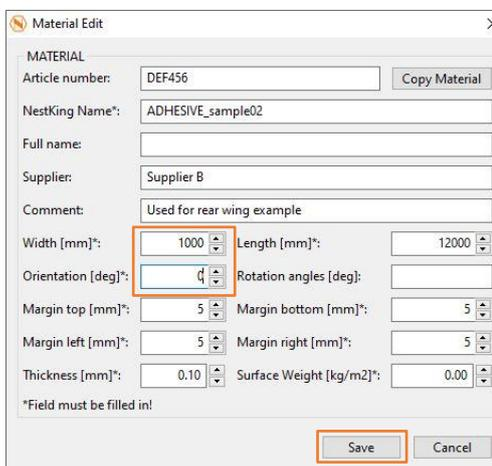

Figure 229
- To add the adhesive material as well repeat the process and copy the material properties from Figure 229 on the right. Consider that the material width is changed to 1000 mm and since adhesive material normally has no orientation 0° is selected (see also chapter *G3. Weaving Direction of Composite Fabrics*). Click **Save** to finish this step and save the adhesive material to our local material catalogue.